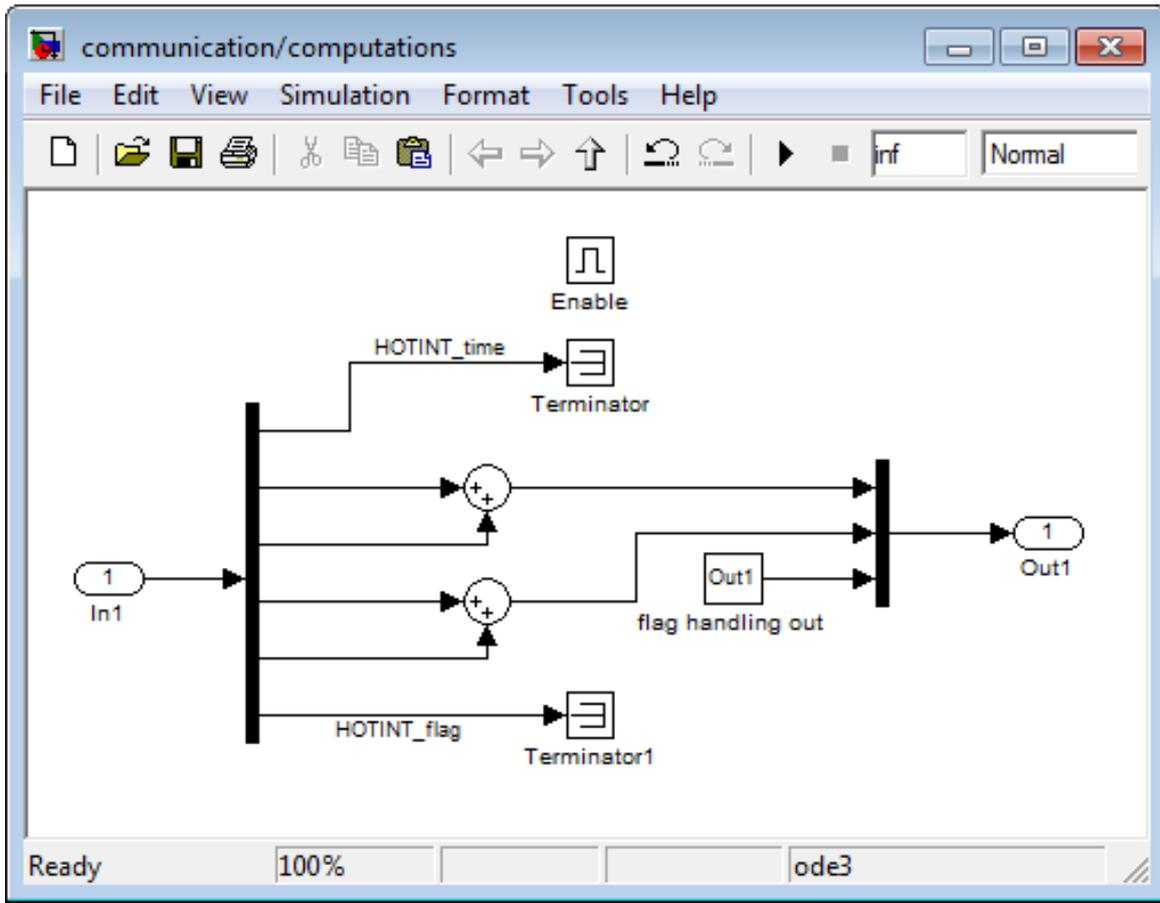

Figure 3.51: Subsystem computations
(4) Set the “Sample Time” of every block (TCP/IP Receive, Constants,...) and choose fixed step size in the “Solver Options”.
(5) Open the subsystem “computations”, see figure 3.51. This subsystem contains all computations  $\mathbf{y} = \mathbf{f}(\mathbf{u})$  with input  $\mathbf{u}$  and output  $\mathbf{y}$ .